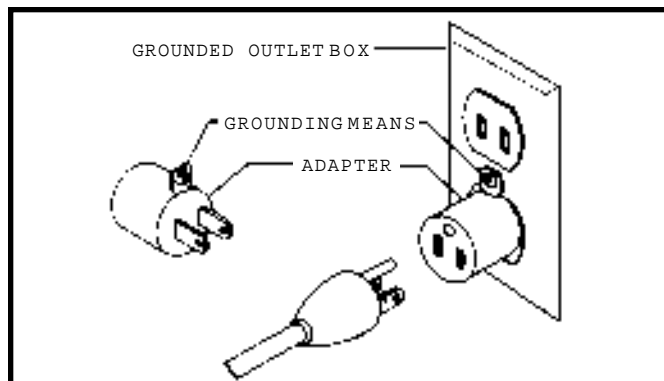

Fig. 74
2. If a properly grounded outlet is not available, a temporary adapter, shown in Fig. 74, may be used for connecting the 3-prong grounding type plug to a 2-prong receptacle. The temporary adapter should be used only until a properly grounded outlet can be installed by a qualified electrician. The green colored rigid ear, lug, or the like extending from the adapter must be connected to a permanent ground such as a properly grounded outlet box cover. Whenever the adapter is used, it must be held in place with a metal screw.